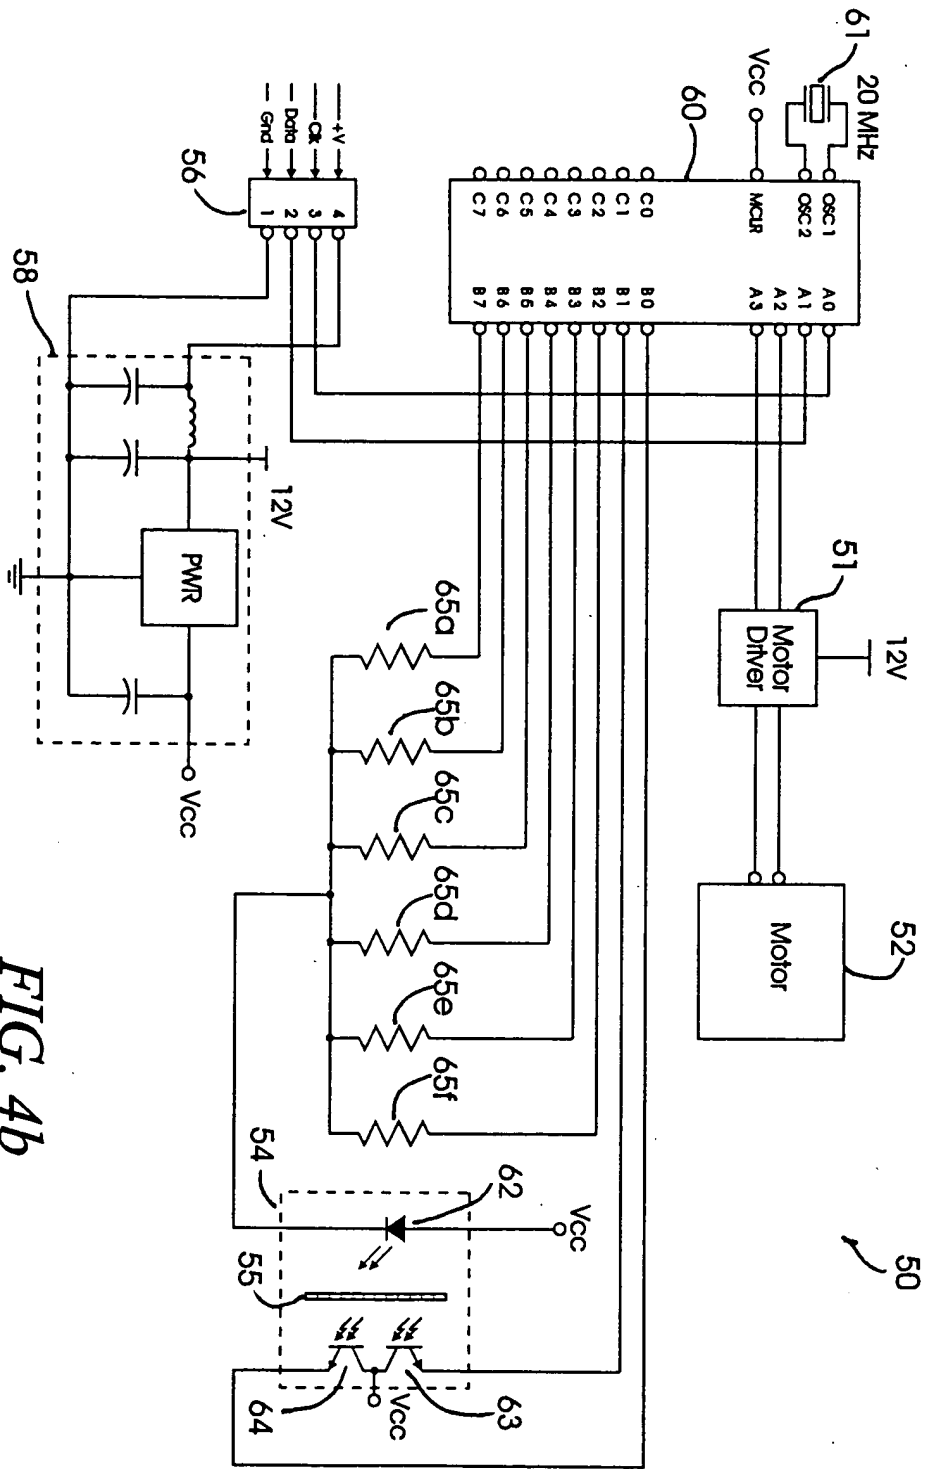

FIG. 4b
FIG. 4b is a schematic diagram of a motor control system. The system includes a microcontroller (60) with pins A0-A3, B0-B7, C0-C7, OSC1, OSC2, and MCLR. A 20 MHz crystal (61) is connected to OSC1 and OSC2. The microcontroller's A0-A3 pins are connected to a Motor Driver (51), which controls a Motor (52). The B0-B7 pins are connected to a series of resistors (65a-65f) leading to a Vcc supply (62). The C0-C7 pins are connected to a Vcc supply (63). A power management section (58) includes a PWR block, a 12V supply, and a GND connection. A switch (54) is connected to the Vcc supply (62) and the motor driver. A transistor (64) is connected to the Vcc supply (63) and the motor driver. A diode (63) is connected to the Vcc supply (62) and the motor driver.